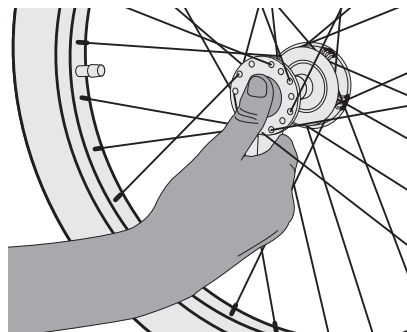

Figure 6
1. Push in the rubber button on the outside of the wheel hub (Figure 6).